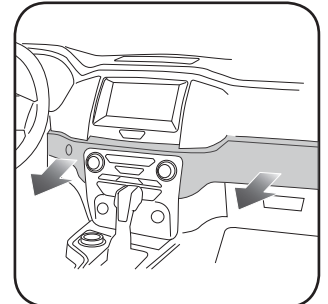

Fig. 1.4
4. Unclip and remove the lower dash panel. (Fig. 1.4)